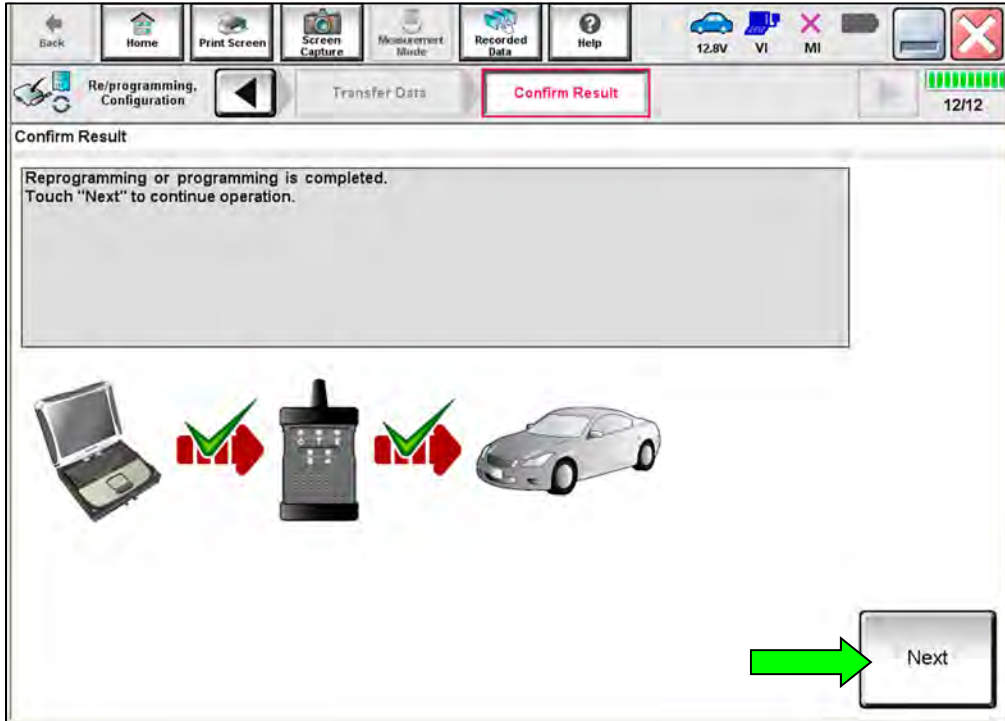

Figure 17
**NOTE:** When the screen in Figure 17 displays, TCM reprogramming is complete. If the screen in Figure 17 does not display (indicating that reprogramming did not complete), refer to the information on the next page.